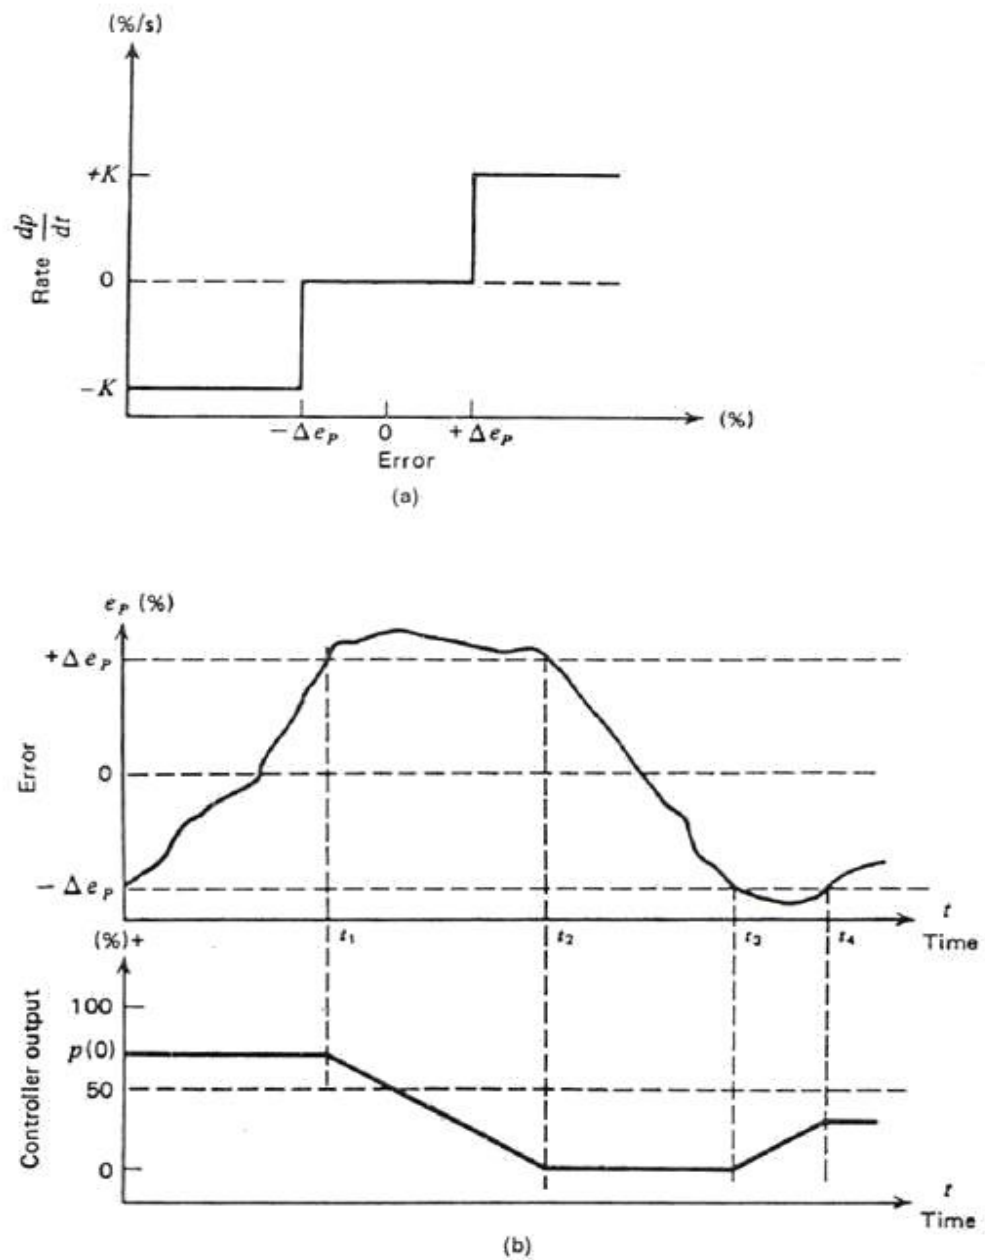

Fig. 1. Single speed floating controller (a) Controller action as output rate of change to input error, and (b) Error versus controller response.
The single- speed controller action as output rate of change to input error is shown in Fig.1 (a). The graph in Fig.1 (b) shows a reverse acting controller, which means the controller output decreases when error exceeds neutral zone, which corresponds to negative K_F in equation (1). The graph shows that the controller starts at some output $p(0)$. At time t_1 , the error exceeds the neutral zone, and the controller output decreases at a constant rate until t_2 , when the error again falls below the neutral zone limit. At t_3 , the error falls below the lower limit of neutral zone, causing controller output to change until the error again moves within the allowable band.